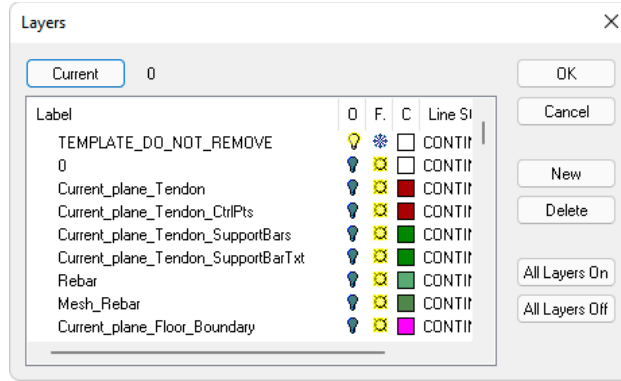

FIGURE 3-9
- Click on the **Layer Settings**  icon in the *Lower Quick Access toolbar*. This will open the *Layers* properties window as shown in **FIGURE 3-9**.